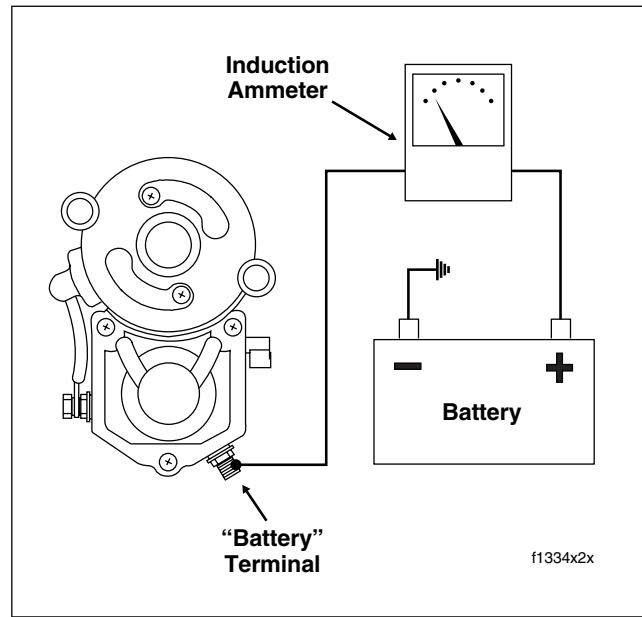

Figure 1-4. Starter Current Draw Test
- Clamp induction ammeter over the positive battery cable. See Figure 1-4.